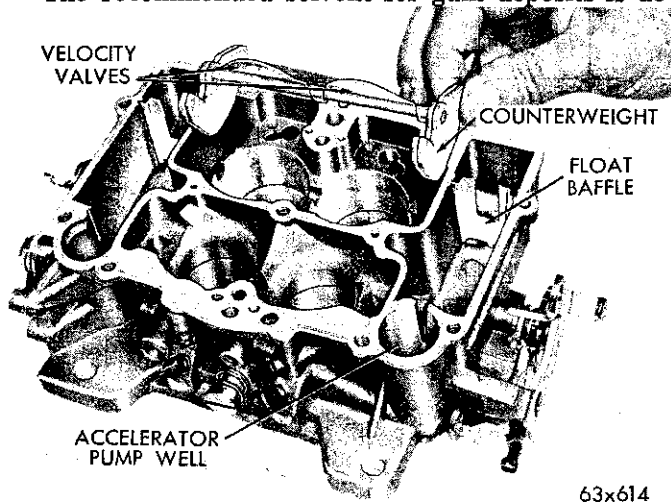

Fig. 10—Removing the Velocity Valves
(5) Lift out the velocity valves and counterweights, as shown in Figure 10.
(1) Remove the screws that hold the throttle valve (or valves) to be replaced to the throttle shaft, then slide valve (or valves) out of the bore.
(2) Slide the new valve (or valves) down into the bore and through the slot in the shaft. Install new screws but do not tighten.
(3) Hold the valves in place with the fingers pressing on the high side of valves. Tap the valves lightly with a screwdriver to seat in the throttle bores.
(4) Holding the valves in this position, tighten the screws securely and stake by squeezing with pliers.
(5) Install the two idle mixture adjusting screws and springs in the throttle body. The tapered portion of the screws must be straight and smooth. If the tapered portion is grooved or ridged, new idle mixture screws should be installed to insure having correct idle mixture control. **DO NOT USE A SCREW DRIVER.** The adjustment should be made with the fingers. Turn the screws lightly against their seats then back off one full turn for approximate setting.
(6) Install the velocity valves and counterweights (Refer to Fig. 10).